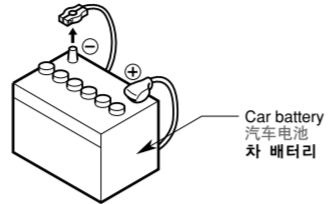

Figure 1 / 图 1 / 그림 1
- Be sure to disconnect the battery "⊖" terminal before starting. This is to prevent short circuits during installation. (Figure 1)
- 开始之前请务必断开电池的“⊖”端子,以免在安装中造成短路。(图1)